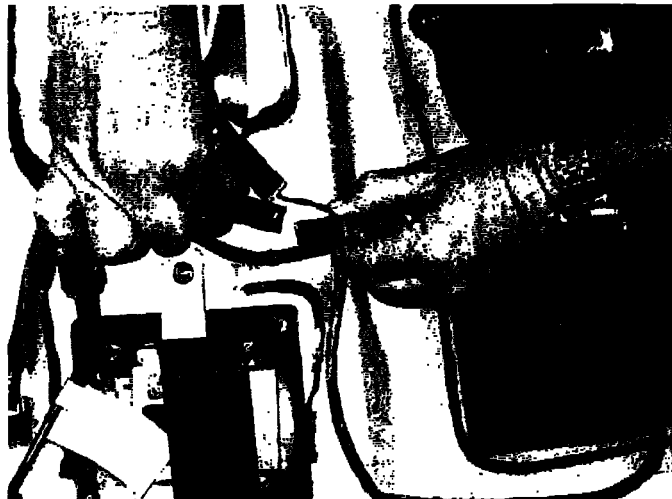

Figure 8
13. Disconnect latch switch connector (see Figure 8).